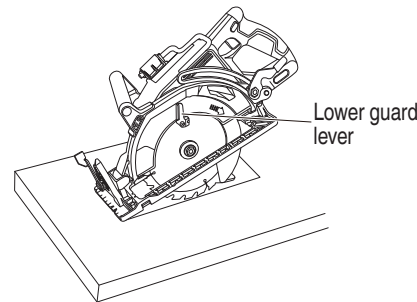

Fig. 31
- (1) Mark the desired cutting area clearly with lines all side. (See Fig. 31)
- (2) Set depth adjustment according to material to be cut.
(3) Push the lower guard lever all the way back so the blade is exposed as shown in Fig. 31.